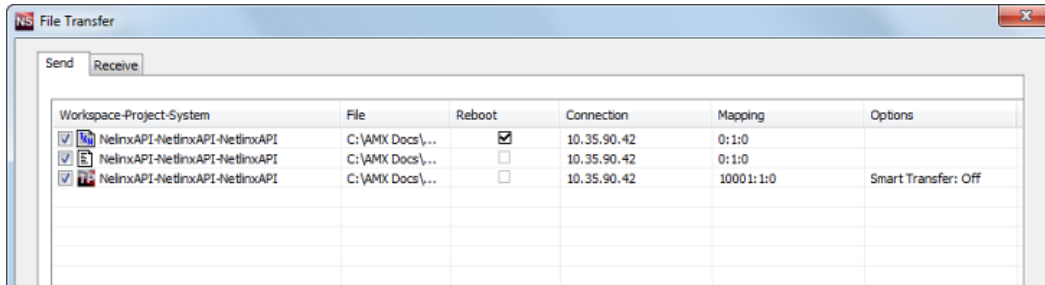

FIG. 205 File Transfer dialog - Send tab
4. Select **OK** to return to the *File Transfer* dialog. The selected files are indicated in the *Send* tab (FIG. 205):